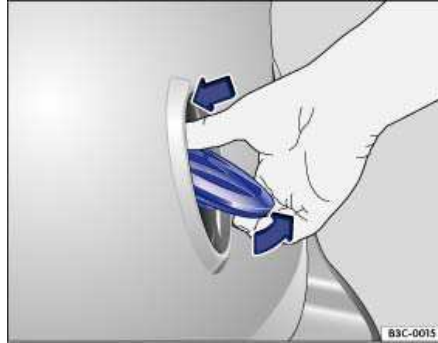

Fig. 32 Opening luggage compartment lid from the outside.
- Using your thumb, press the top of the Volkswagen emblem ⇒ fig. 32 and move the top of the emblem down. The luggage compartment lid opens automatically.